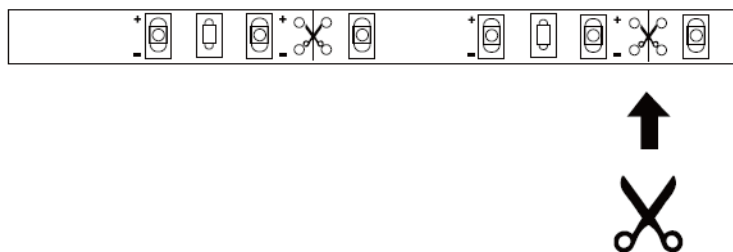

Fig.5
8. You can cut the ribbon to your preferred length. Fig. 5